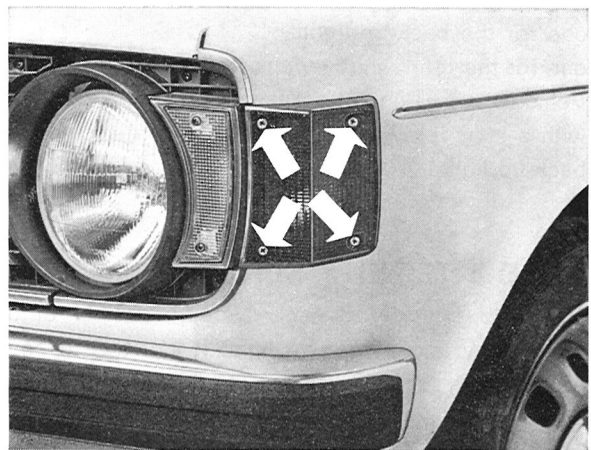

Fig. 3-135. Removing light glass
2. Remove the light lens, see Fig. 3-135.